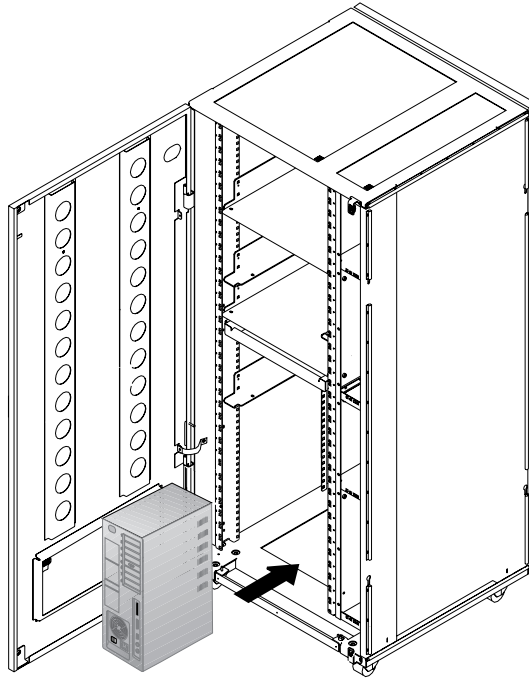

Figure 1-58. Installing the Service Processor Unit in the Controller Expansion (Rear Side)
11. ____ If installed, remove the floor stand and slide the service processor unit as shown in Figure 1-58, then **go to step 13** .